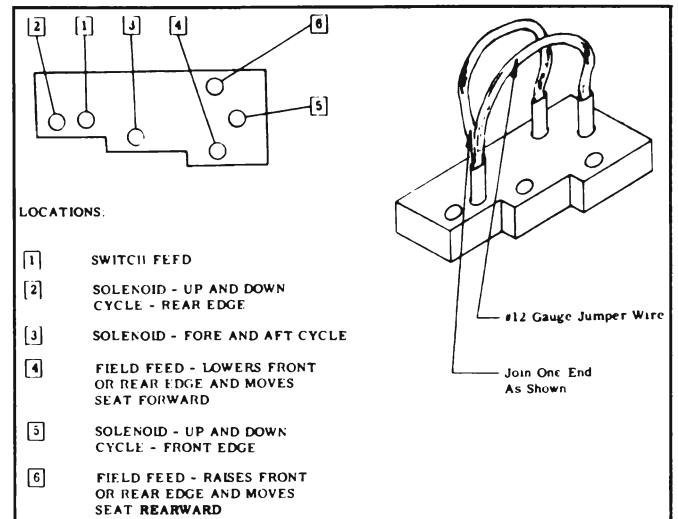

Figure 13-133—Checking Six-Way Seat Switch Terminal Block
(1) Connect one light tester lead to feed terminal of switch block and ground other tester lead to body metal. See location #1 in figure 13-133.
(2) If tester does not light, there is no current at switch block. Failure is caused by an open or short circuit between the switch block and power source.
(1) Disengage feed connector from relay assembly.
(2) Insert one light tester lead into the connector relay power feed connector slot and ground other light tester lead.
(3) If tester does not light, there is no current at end of feed wire. Failure is caused by an open or short circuit between the end of wire and switch block. *NOTE: In the following operations which specify the seat control switch to be actuated, a switch which has been checked for proper operation may be connected to the switch block. If a switch is not available, a three-way jumper wire can be made to perform the switch function. The procedure for making the jumper wire and the switch locations to be connected to obtain a specific movement of the seat are outlined in figure 13-133. If jumper is used, number the locations on the switch block as indicated in the illustration.*
To make jumper wire, obtain two (2) pieces of #12 gauge wire, each 4½" long. Join one end of each wire as shown in figure 13-133. The joined end can be inserted in the feed location in the switch block; one of the remaining ends can be inserted into one of the field locations in the switch block; the other end can be inserted into one of the solenoid locations. **IMPORTANT:** To obtain a seat movement using a 3-way jumper wire at the switch block, the switch feed location, one of the motor field wire locations and one of the solenoid locations have to be connected simultaneously.